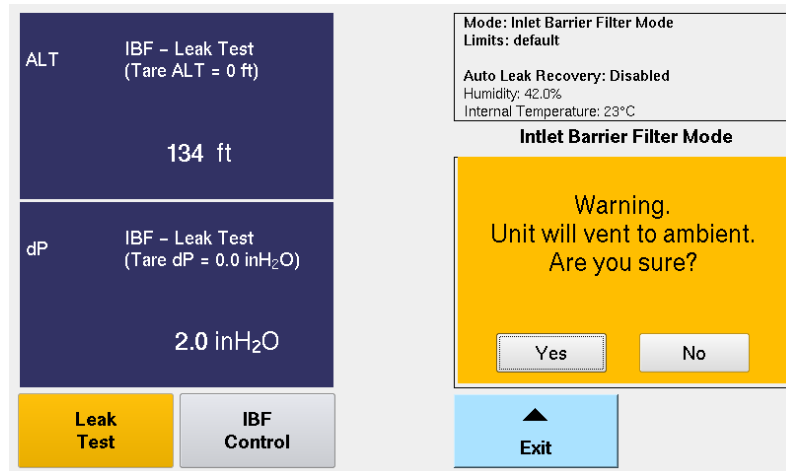

Figure H. 9 Vent to Ambient Screen
15. Once testing is completed, touch “Exit”. A warning screen appears with the prompt below (Fig. H. 9).